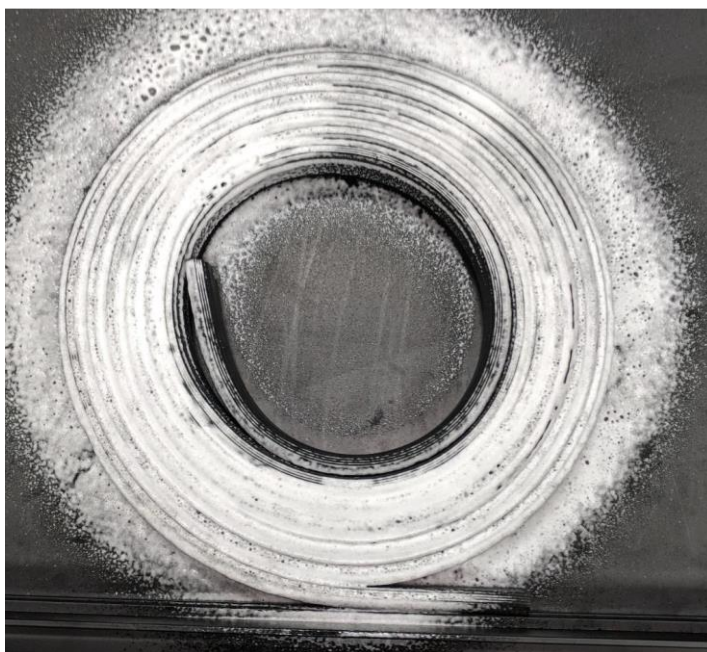

Figure 8: Coat Continuous Window Channel Cover with Foaming Glass Cleaner
- i. To replace the continuous window channel cover, first roll the spline into a circle and coat with foaming glass cleaner. See Figure 8.